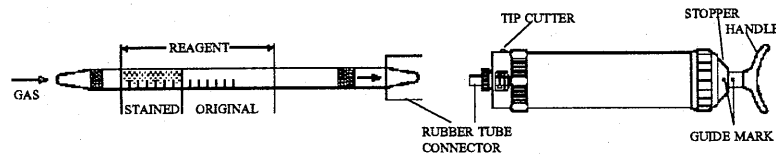

Fig.1
- ② Insert the detector tube into aspirating pump securely as shown in Fig.1. (Arrow mark shall point to the pump.)
- ③ Align the guide marks on the shaft and stopper of the aspirating pump.
- ④ Pull pump handle to full stroke until it locks and wait for 1 minute or until confirmation that sampling is completed (See descriptions of the flow indicator in the pump instructions).